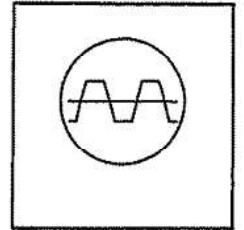

Figure 13
(1) Set the input level for clipping output (square wave – Figure 13) and note the current reading (about 5A).
(2) Short Output terminal of Left or Right channel, and note the current reading.
(3) Check for decrease of current when output terminals are shorted (about 2A decrease).